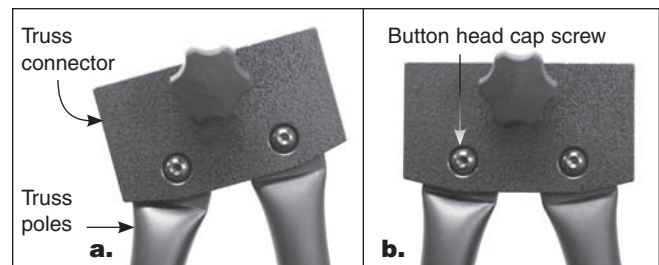
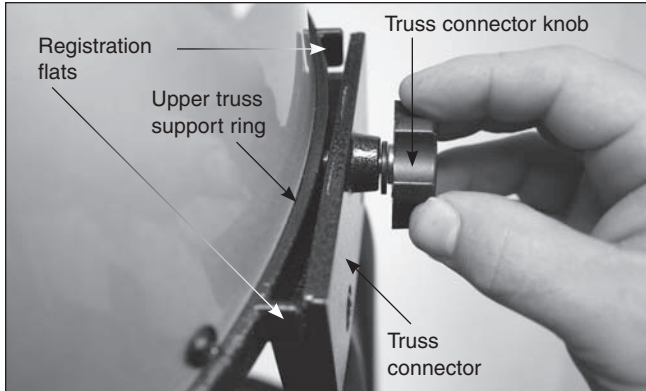

Figure 20. The position of the truss connectors relative to the pole ends can be adjusted to register the truss connectors with the upper truss support ring.
Figure 21. When the truss clamping knob is tightened, it will clamp the truss connector against the registration flats on the upper truss support ring.
- Attach the upper tube section to the four truss connectors at the top of the poles. Orient the upper tube section as shown in **Figure 19**. Hold the upper tube section with one hand while threading the knobs in the truss connectors into the holes in the upper truss support ring. If necessary, you can slightly adjust the position of the truss connector with respect to the pole ends in order to have the knobs and holes line up (**Figure 20**). When tightened, the knob will clamp the truss connector against the registration flats on the upper truss support ring (**Figure 21**). Repeat this for the other three truss connectors. Firmly tighten the knobs.
If, after assembling, the truss poles are loose within the truss connectors, use the supplied 4mm hex key to tighten the button head cap screws that connect the poles to the truss connectors (see **Figure 20**). This should rarely need to be done.